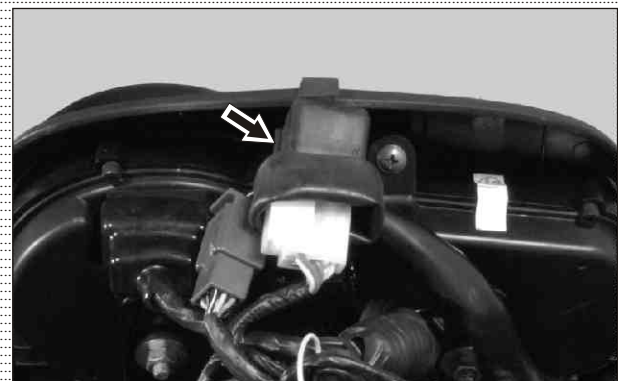

Fig. 5.47
- Remove the pass by relay from housing head lamp rear by dis locating from the cable guide. (Fig. 5.47)